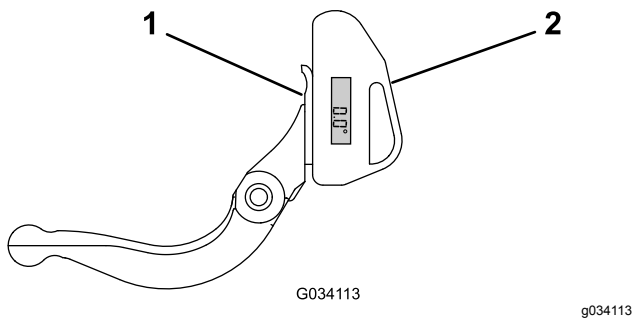

Figure 27
1. Place the angle indicator on the bottom side of the bedknife as shown in Figure 27.